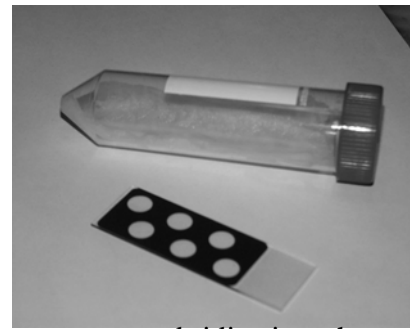

Figure 3. Hybridization chamber and an object glass with wells.
- Put the small biofilm block on an object glass with wells as shown in figure 3. Make sure that the side that faced the glass cover slip in the flow channel is turned downward.
- Pre-hybridize at 37 °C for 30 min. in a humid chamber, see figure 3. Hint: wet some tissue paper with Wash I and place it in the chamber together with the slide,